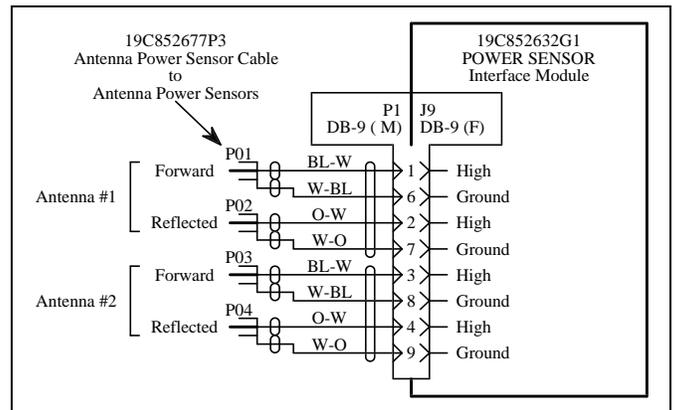

Figure 9 - Antenna Power Sensor Connections
16. Install the 19C852677P3 antenna power sensor cable from J9 on the Power Sensor interface module in the Site Controller cabinet, to the antenna power sensor(s) in the RF equipment cabinet(s) as shown in Figure 9. If the system has only one antenna, tack solder a jumper (tip to shield) on each of the unused phono plugs to short the forward and reflected power sensor circuits for antenna #2.